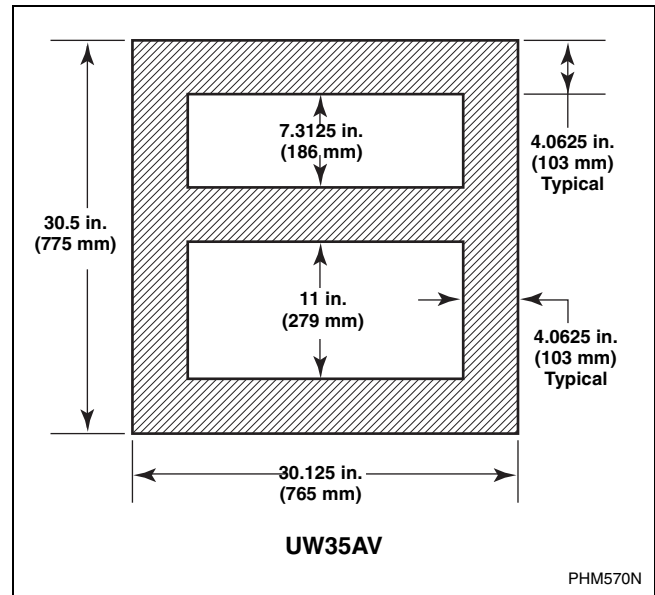

Figure 10
5. Fill the space between the washer-extractor base and the floor with a good quality non-shrinking machinery grout to ensure a stable installation. Grout completely under all frame members. (Remove front panel and metal back panel to gain access to **all** frame members.) Refer to *Figures 10 through 13*. Force grout under machine base until all voids are filled.